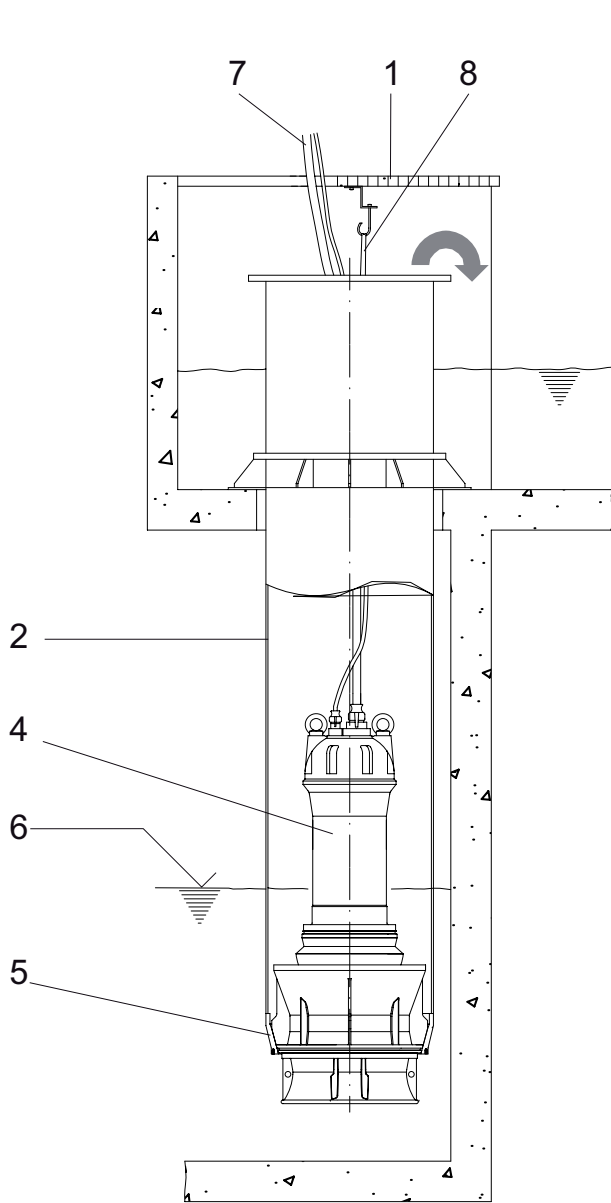

Figure 25 VUP/AFL in a steel discharge pipe
1. Installation in a steel discharge pipe in accordance with *Figure 25*
The coupling ring required for installation of the AFL/VUP submersible pump must already be installed as shown in *Figure 25 and 26*. Before installation of the pump a suitable support (hook) for the chain, as well as an opening and suspension (cable sock) for the cable must be provided in the sump or riser pipe.